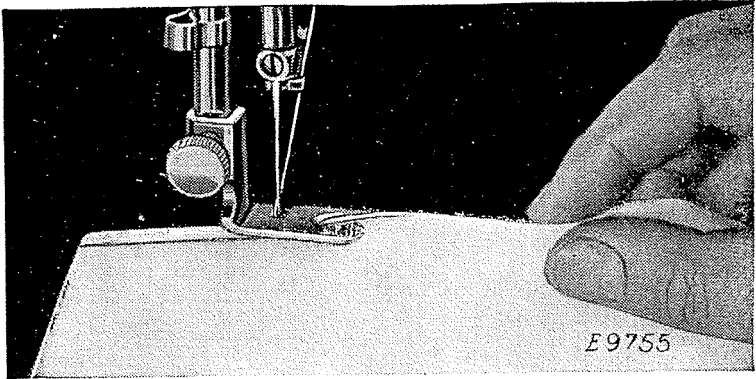

FIG. 33. STARTING A HEM AT THE EDGE
3. Draw the material toward you through the Hemmer, as shown in Fig. 33, at the same time making the second fold at the very edge. Continue to draw the material through the Hemmer until the edge is just under the needle. Place the upper and lower threads together under the Hemmer foot and assist in starting of the hem by slightly pulling the threads from the back as the machine is run.